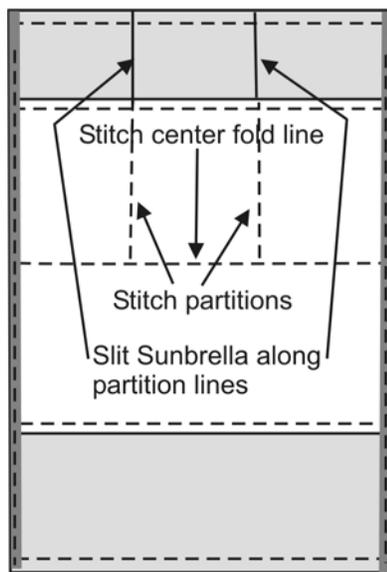

Fig 7-87 Stitch center fold line and partitions. Slit Sunbrella flaps if desired.
Step 5 – Stitch the assembly down the middle through all thicknesses – this is the fold-in-half-line. (Fig 7-87)
If you want pocket divisions, mark these on the vinyl with grease pencil and stitch through all thicknesses. (Fig 7-87)